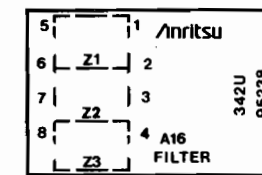

Fig. 3-63 A16 FILTER PC Board Parts Layout **28**
4. A16 FILTER (Fig. 3-63, **28**)